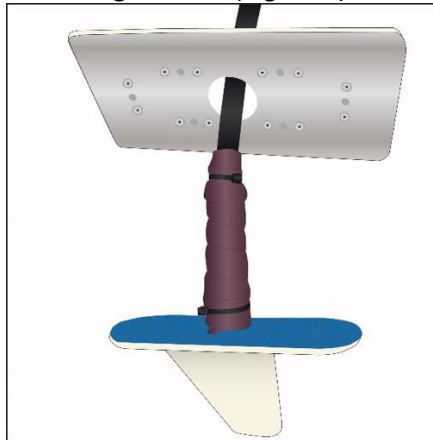

Figure 1
- 4) Disconnect aircraft coax cable and peel antenna gasket from antenna/fuselage. Use isopropyl alcohol to remove any remaining residue. *(Figure 1)*